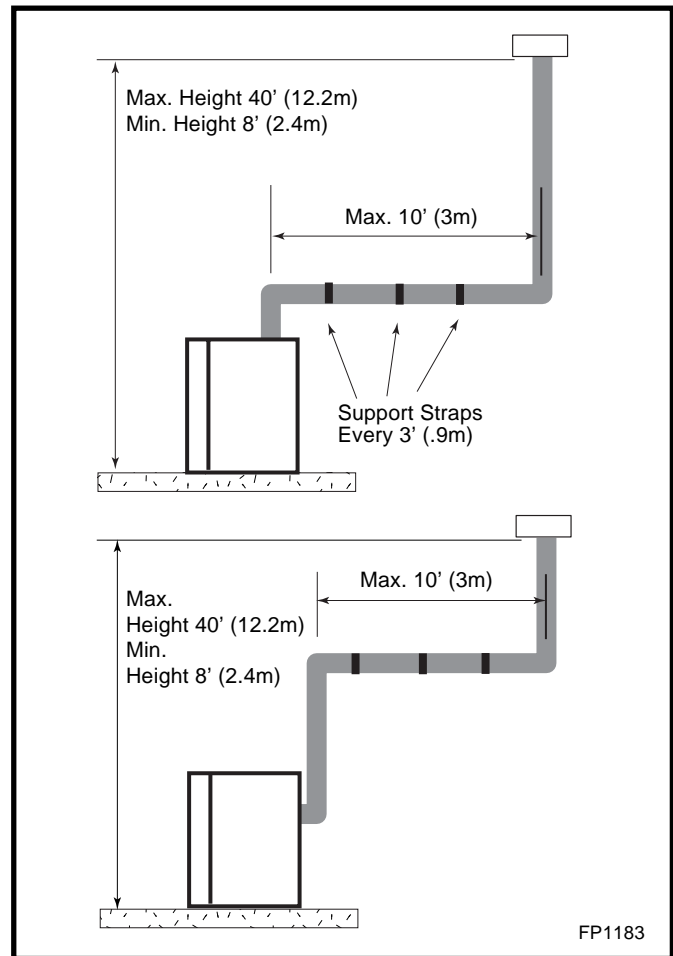

Fig. 35 Support straps for horizontal runs.
- Vertical installations up to 40' (12m) in height. Up to a 10' (3m) horizontal vent run can be installed within the vent system using a maximum of two 90° elbows. (Fig. 35)